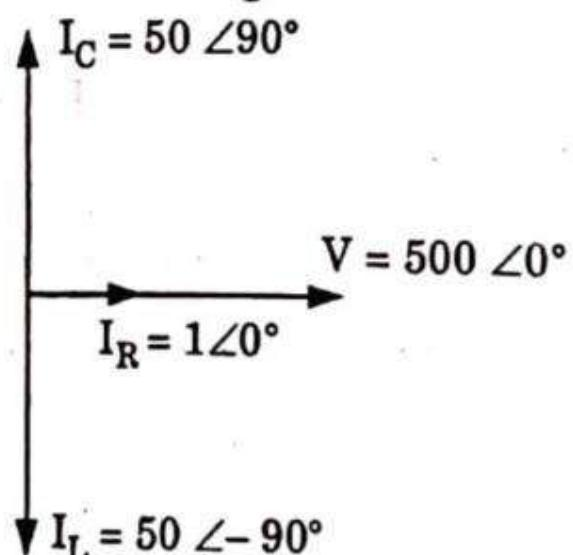

Fig. 2.23.2.
15. Phasor diagram is shown in Fig. 2.23.2.